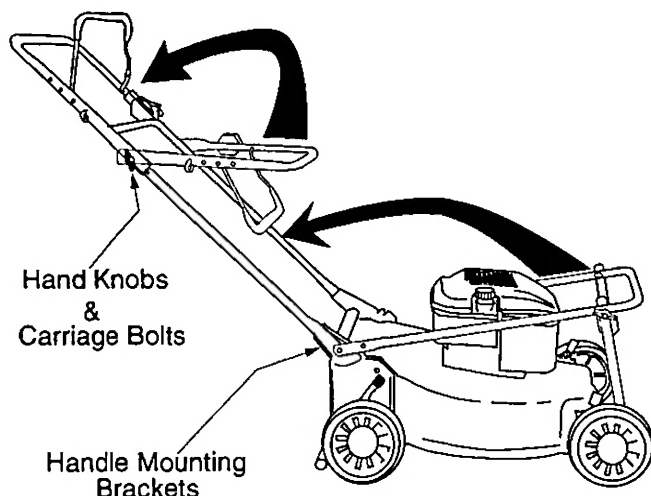

Figure 3.
Refer to Figure 3.
3. Pull up and back on the upper handle to raise the handle into the operating position. Make certain the lower handle is seated securely into the handle mounting brackets. Tighten the hand knobs on each side of the handle (carriage bolts must be seated properly into the handle). See Figure 3.